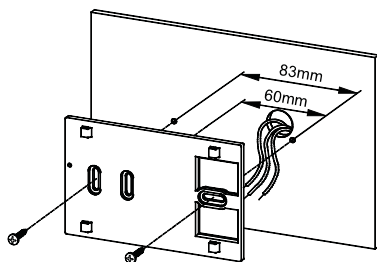
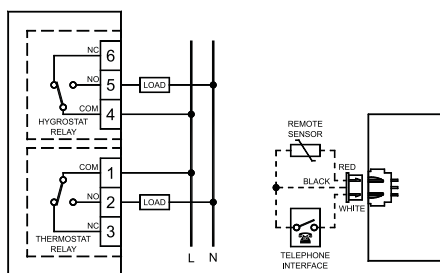
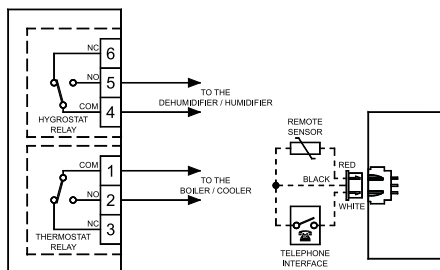

Fig. 3
Fig. 4
Fig. 5
- 2 Fix the plate directly on the wall or onto 2 or 3 module junction boxes by means of the two holes for screws (distance between centres: 60 mm or 85mm), taking care to pass the wires through the opening as shown in Fig. 3.
- 3 Make electrical wirings by passing the wires through the rectangular opening in the wall plate (Fig. 3), and according to the diagram in Fig. 4 or Fig. 5.